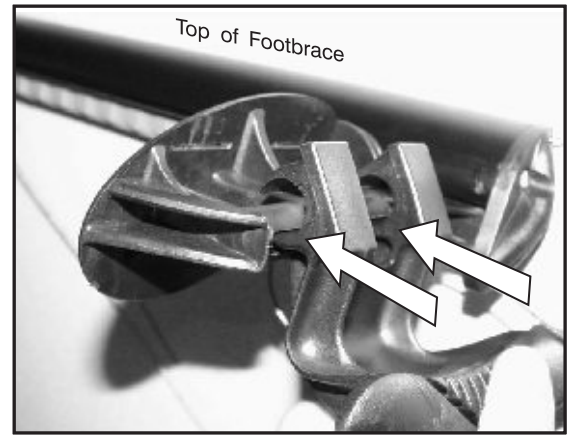

Figure 1. Inserting tabs on Toe Pilot into slots on Footbrace Pedal pivot post.
- b) Insert tabs on Toe Pilot into slots on the Footbrace Pedal pivot post as. (Fig. 1) Make sure Toe Pilot is oriented correctly (Toe Pilot sits on top of Pedal) and that it is the correct Toe Pilot (left or right) for the Footbrace Pedal.